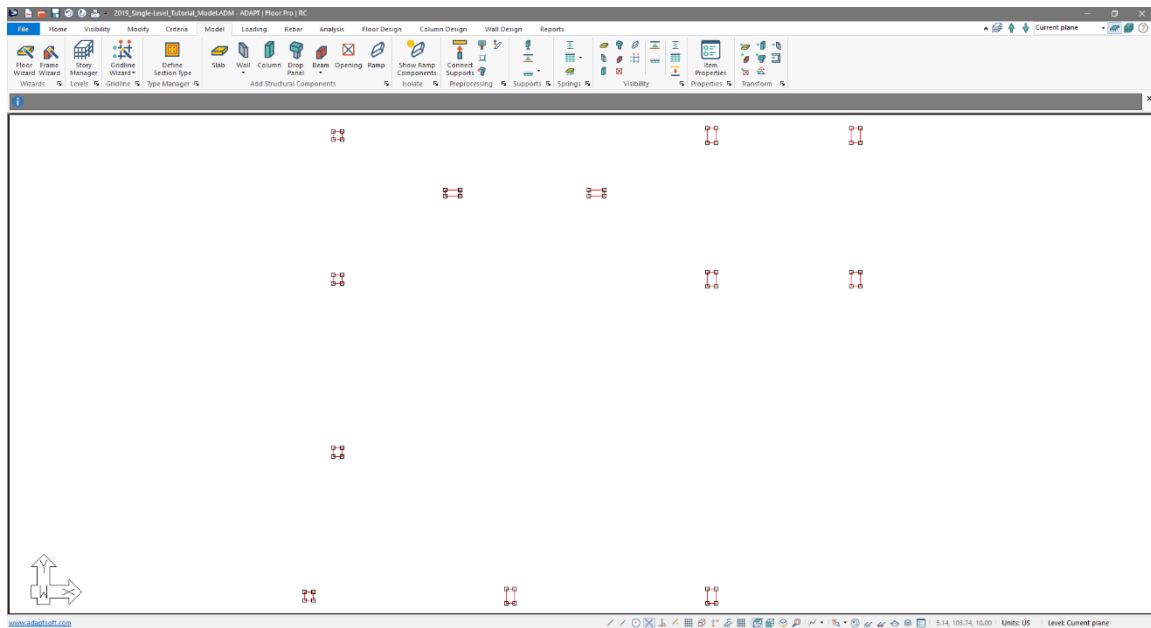

Figure 2-28
- Left-click and hold the left click of your mouse in the upper left white space and drag your mouse to the lower right so that the selection icon encompasses all the column CAD entities. Release the left button of the mouse to select all of the column CAD entities, all columns should now be selected as shown in **FIGURE 2-28**.